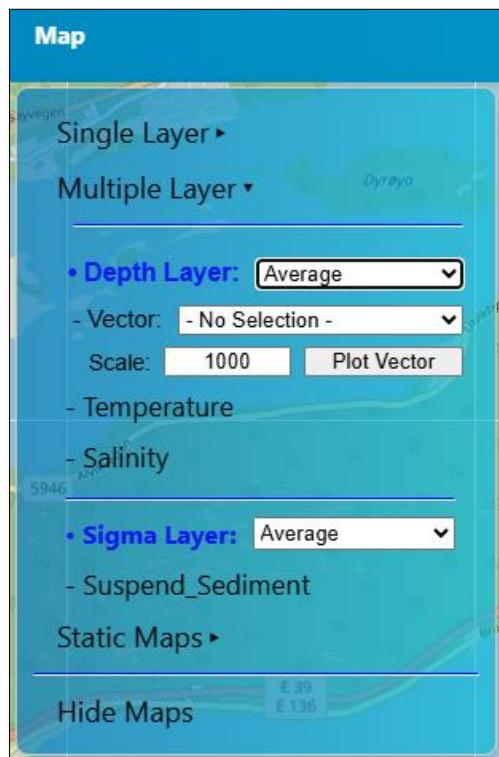
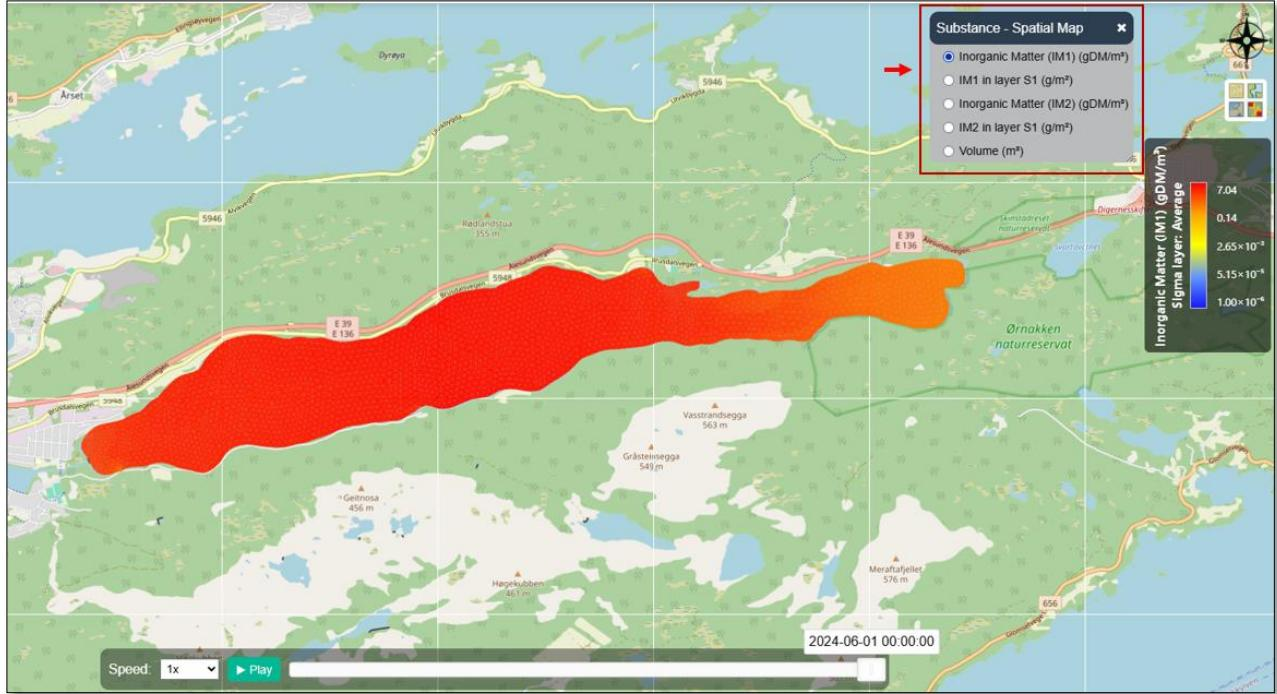

Figure 4.21. Multiple Layer option
Figure 4.27. A dynamic map for the average suspended sediment scenario
- ❖ *Multiple Layer:* This option allows the user to visualize objects in many layers (**Figure 4.21**). There are two parts shown in this submenu: the first part (with the field “**Depth Layer**”) is for a HYD simulation, and the second part (with the field “**Sigma Layer**”) is for a WAQ simulation.
If the user selects a WAQ simulation while opening the project, the second part in **Figure 4.21** will appear. After the user selects a specific sigma layer for a WAQ simulation, select the object to visualize on the map. The user can change the type of substance from an additional window (**Figure 4.27**).